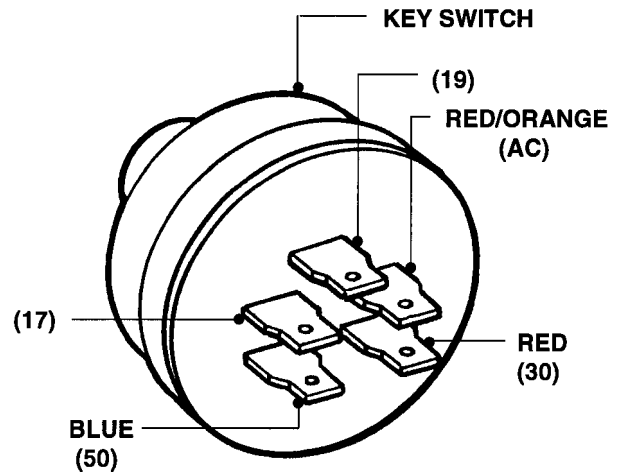

FIGURE 3.9
2. Disconnect Wires from the Switch Terminals. See Figure 3.9.